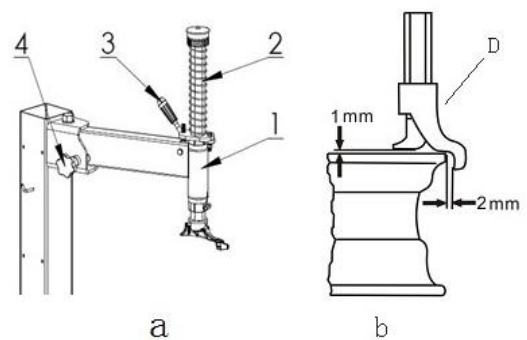

Fig. 16
- Unlock (de)mountingarm (2, fig. 16a) by pulling the locking lever (3, fig.16) towards you.
CAUTION! In order to avoid damaging the inner tube if there is one, it is advisable to carry out this operation with the valve about 10 cm right of the mounting head. (Fig. 16)